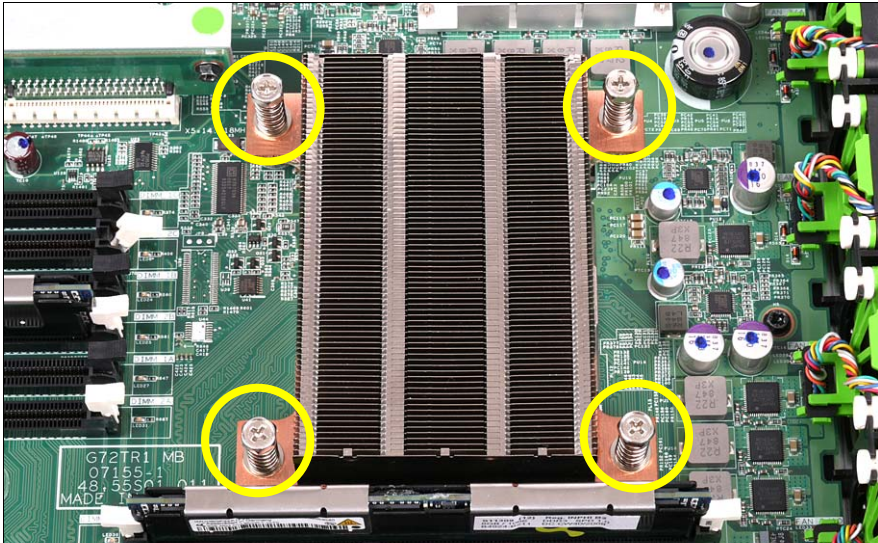

Figure 9: Removing the heat sink
- ▶ Remove the four screws of the heat sink in a crossover pattern (see figure 9 on page 26).